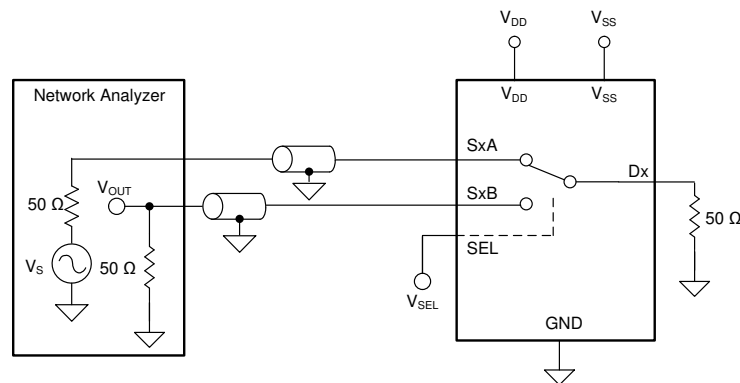

Figure 6-8. Intra-Channel Crosstalk Measurement Setup
1. Intra-channel crosstalk: the voltage at the source pin (Sx) of an off-switch input, when a 1-VRMS signal is applied at the source pin of an on-switch input in the same channel, as shown in Figure 6-8.